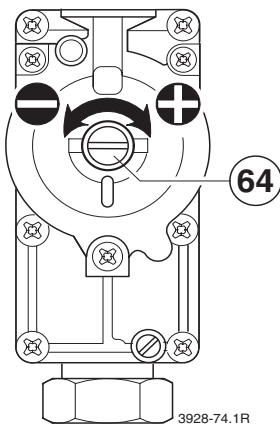

Fig. 42
- ▶ Adjust the gas flow restrictor (63) to obtain the CO₂ level given in Table 15. Refer to fig. 42.
- ▶ Remove the seal from the gas valve adjusting screw (64) and adjust the CO₂ level to the figure given in Table 15 for min. rated heat output. Refer to fig. 42.